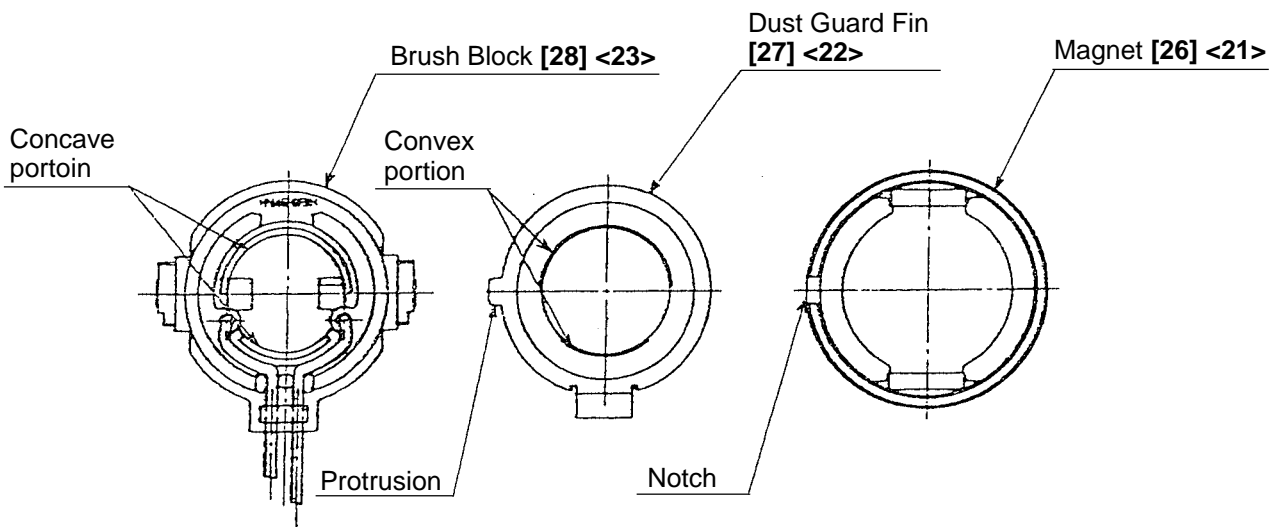

Fig. 11
- Adjust the protrusion of the Dust Guard Fin [27] <22> to the notch of the Magnet [26] <21> when mounting the Dust Guard Fin [27] <22> to the Magnet [26] <21> (see Fig. 11).
- Adjust the convex portion of the Dust Guard Fin [27] <22> to the concave portion of the Brush Block [28] <23> (see Fig. 11).
- Adjust the notch (for locking) of the Magnet [26] <21> to the protrusion of housing (A) (see Figs. 11 and 12).